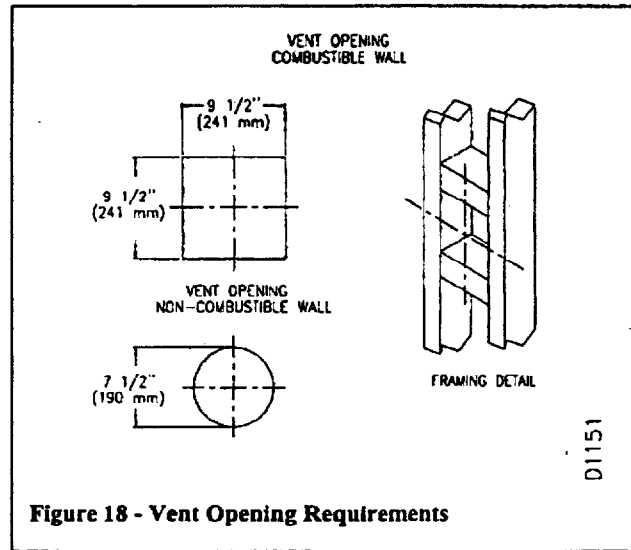
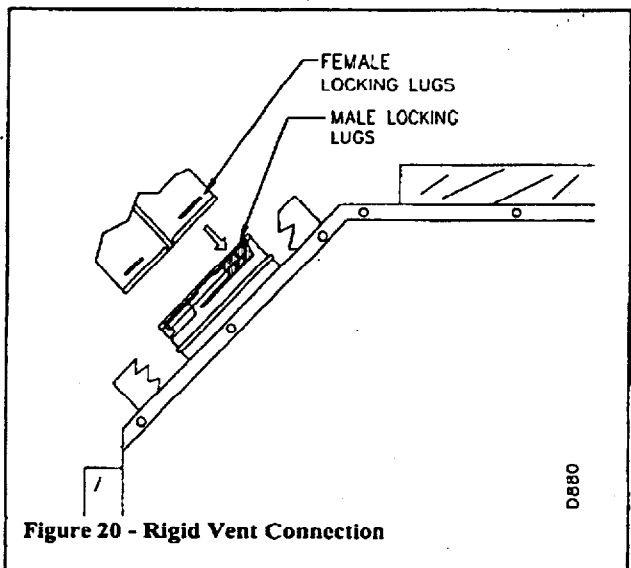
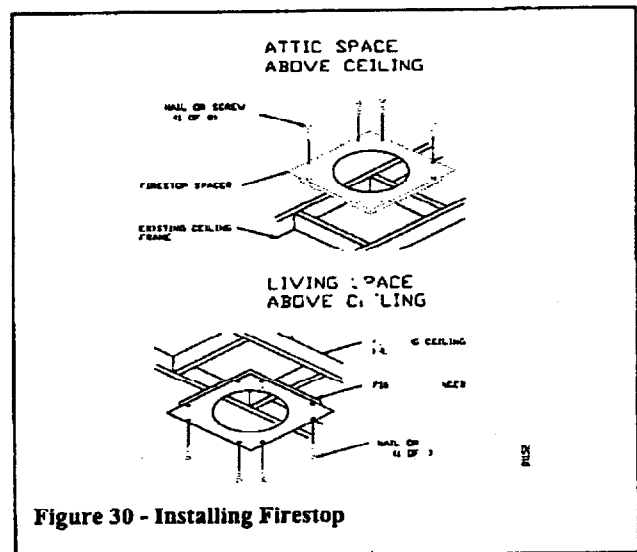

Figure 18 - Vent Opening Requirements
Figure 20 - Rigid Vent Connection
Figure 30 - Installing Firestop
Flexible vent pipe must be installed with spacer springs every 12" and especially near each bend (See Figure 18). Make the 4" inner pipe connection to the unit with the clamp provided. Install the spacer springs by looping them around the 4" pipe and connecting at both ends. Slide the 7" outer pipe over the springs and inner section and continue adding sections in this manner. All connections need a minimum of 1 1/4" (32mm) overlap, must be clamped tightly and sealed with high temperature silicone sealant as specified in the second warning statement on page 7.
3. Attach the vent pipe assembly to the fireplace using twist-lock connections for rigid pipe or clamp, method for flex pipe. See figures 20 and 21, on page 9 and 10. Set fireplace in front of its permanent location to insure minimum clearances. Mark the wall for a 9 1/2" x 9 1/2" (242mm x 242mm) square cut through combustible exterior wall or a (7 1/2" (190mm) diameter hole for non-combustible material such as masonry block or concrete. See figure 18, on page 9. The center of the hole should line up with the centerline of the rigid vent pipe. Frame if necessary to support outer vent terminal.
1. Cut a 9 1/2" hole in the ceiling using the locating hole as a center point. The opening should be framed to a 9 1/2" x 9 1/2" (241mm x 241mm) inside dimensions, as shown in Figure 18 on page 9 using framing lumber the same size as the ceiling joists. If the area above the ceiling is an insulated ceiling or a room, nail firestop from the topside. This prevents loose insulation from falling into the required clearance space. Otherwise, install firestop below the framed hole. The firestop should be installed with the flanges set into the framing and secured with no less than three nails per side (see Figure 30).
3. Cut a hole in the roof using the locating hole as a center point. (Cover any exposed open vent pipes before cutting a hole in the roof). The 9 1/2" x 9 1/2" hole must be measured on the horizontal; actual length may be larger depending on the pitch of the roof. There must be a 1" clearance from the vent pipe to combustible materials. Frame the opening as shown in Figure 18, on page 9.